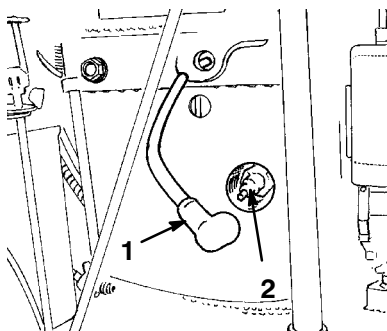

Figure 17
2. Pull the wire off of the spark plug (Fig. 17). Clean around the spark plug to prevent dirt from falling into the engine and potentially causing damage.
3. Push the wire(s) onto the spark plug(s) (Fig. 17).